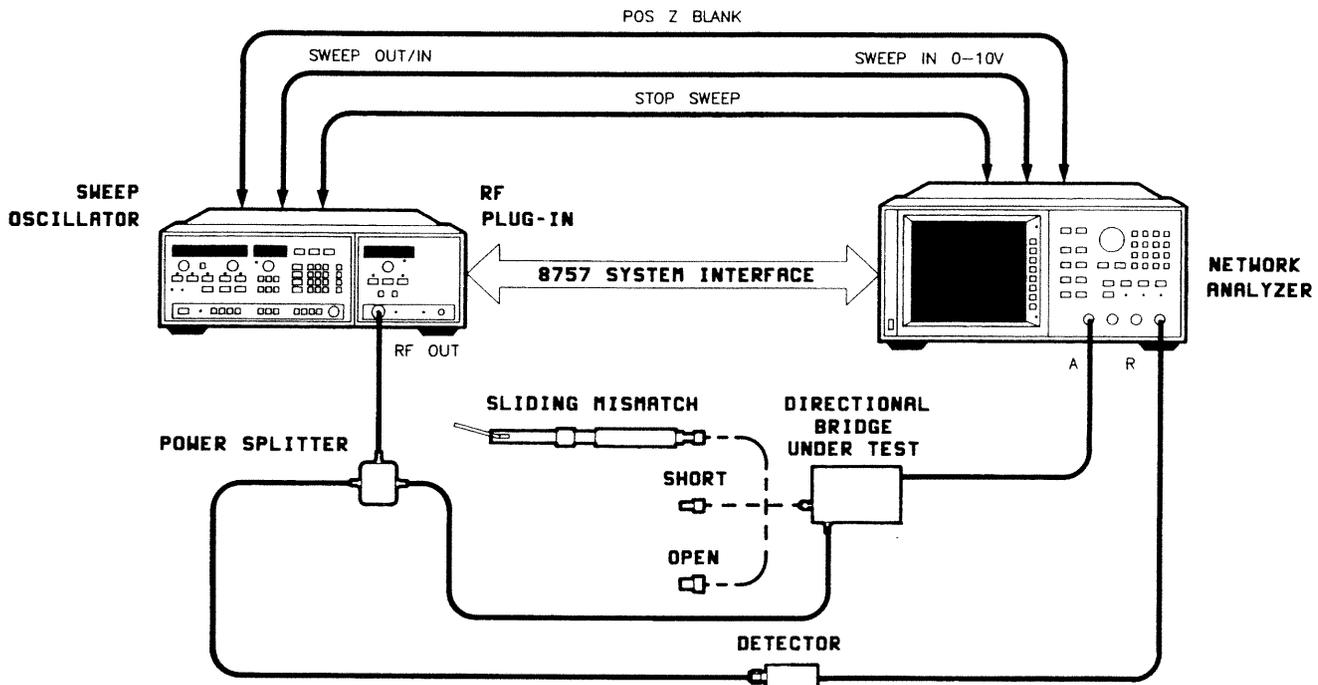

Figure 4-4. Directivity Test Setup 40 to 50 GHz
1. Connect the equipment as shown in Figure 4-4. Orient the bridge so the sliding mismatch will be vertical when connected to the bridge test port. Allow 30 minutes warm-up. Set the bridge configuration switch to **HP 8757**.